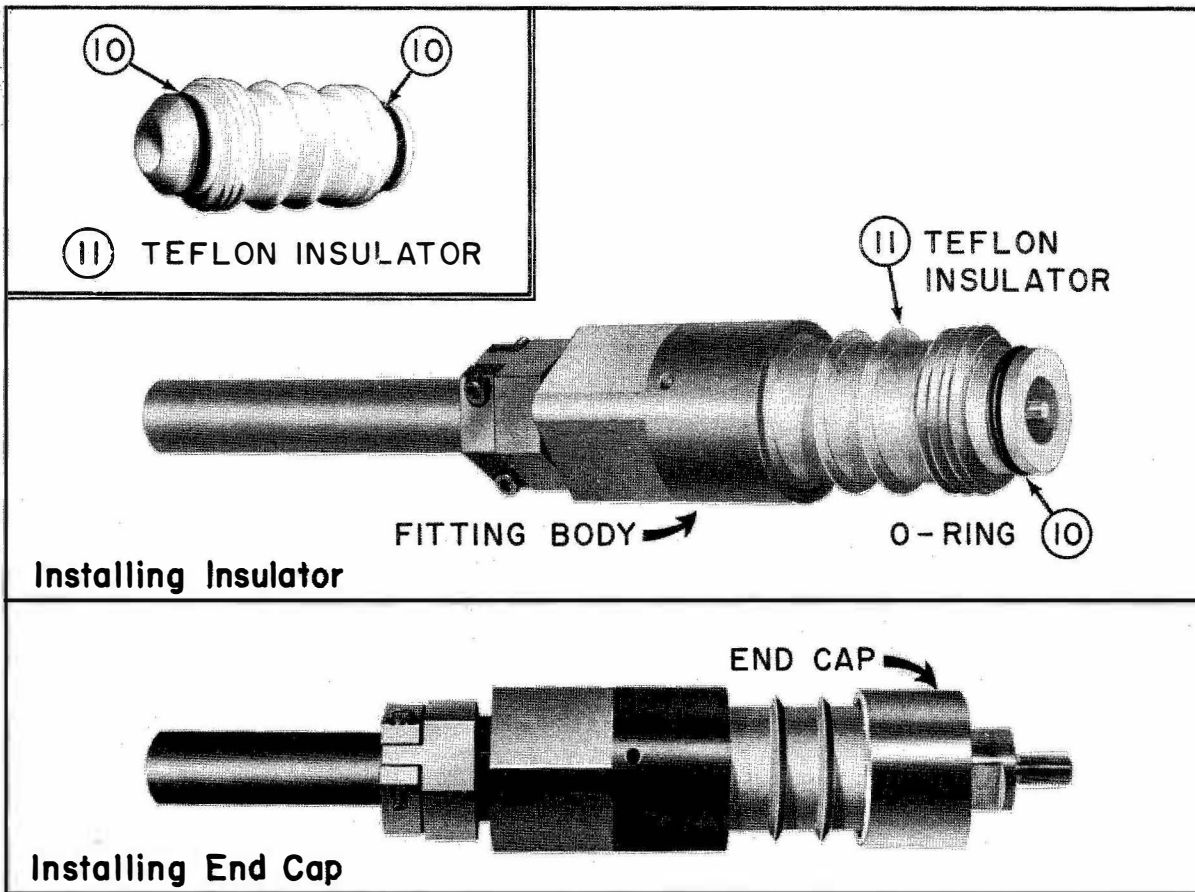

Figure 5-10i. Teflon Insulator and Cap Installed
Step 8. - Lubricate both O-rings, piece 10, with insulating compound and install in the grooves on each end of the teflon insulator. Slip the insulator over the dielectric and tighten it to the fitting body. Ensure that the center conductor is centered with the end of the insulator. Tighten the end cap to the insulator. Remove any foreign matter from the insulator (see figure 5-10i).